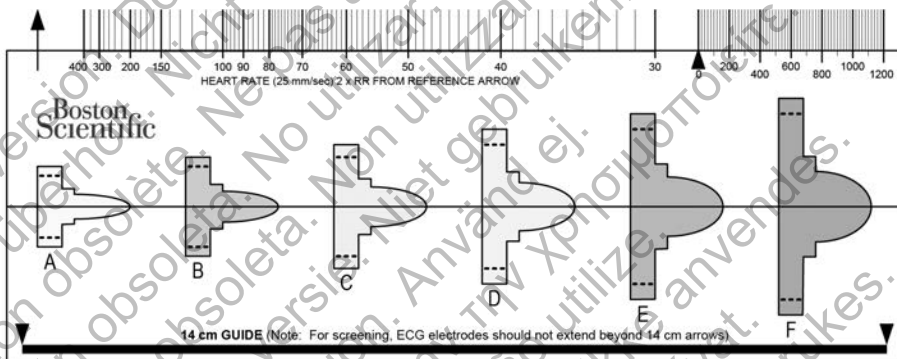

Figure 1. Patient Screening Tool
The patient screening tool, Model 4744 (Figure 1 Patient Screening Tool on page 15) is a customized measurement tool made of transparent plastic printed with colored profiles. Each colored profile is assigned a letter (A,B,C,D,E,F) for ease of reference. The profiles are designed to ensure appropriate device performance by identifying signal characteristics that may lead to unsatisfactory detection outcomes for a patient before implant. The patient screening process is completed in three steps: (1) Collecting the surface ECG, (2) Evaluating the surface ECG and (3) Determining an acceptable sense vector.